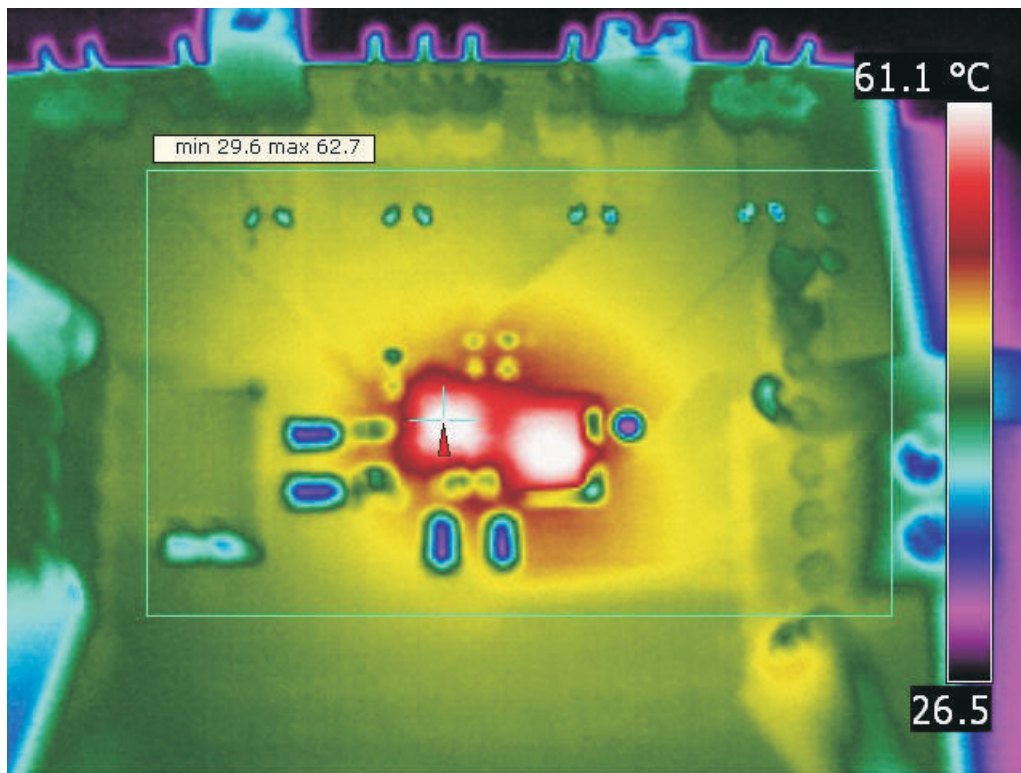

**Figure 3-15. TLV62130A Prebias Start-Up and Shutdown on EN With 1-A Load and VIN = 12 V**
- (1) EVMs made before August of 2013 use the non-A version of U1. The only difference between these devices is the operation of the PG pin when the device is disabled, as shown in Figure 3-14 and Figure 3-15.